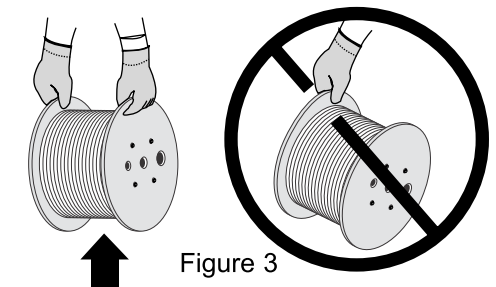

Figure 3
- 4.2** Always lift a plywood reel by both flanges (Figure 3) Do not pick up a reel by one flange. Picking up a reel by one flange causes the flange to bow which creates a gap between the cable and flange. Over time the traverse will soften in the gap area and cause the cable to cascade.